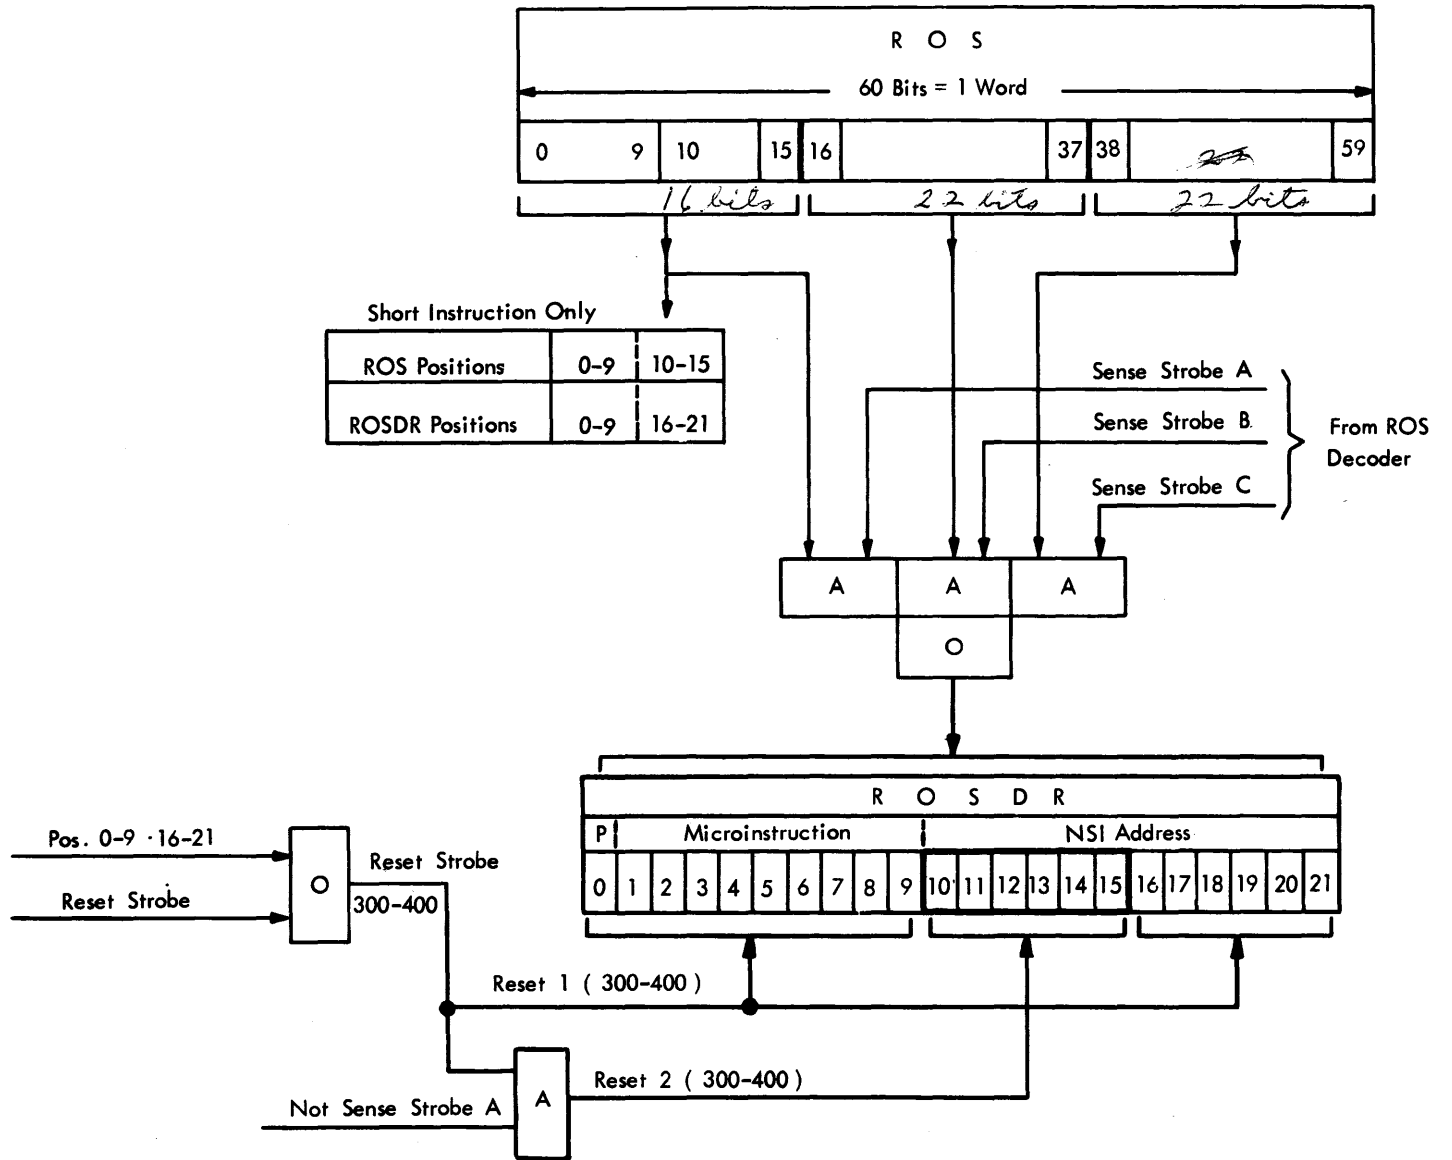

Figure 2-39 ROSDR
- ROSDR is a 22 position latch register capable of containing one complete micro instruction. (Figure 2-39).